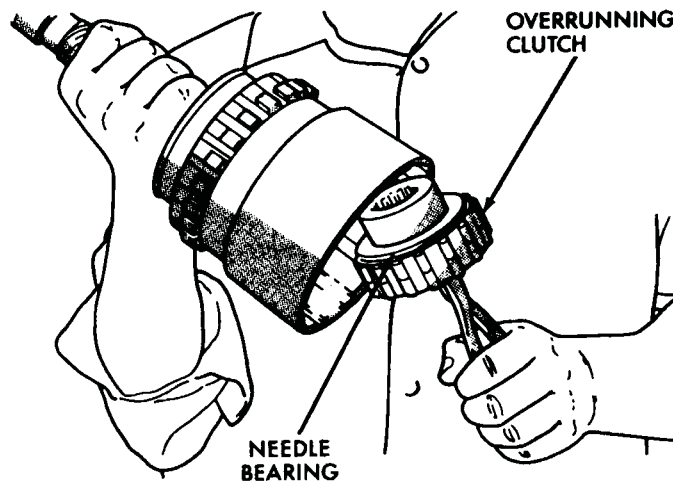

Fig. 27 Overrunning Clutch Removal
(16) Remove overrunning clutch assembly with expanding type snap ring pliers (Fig. 27). Insert pliers